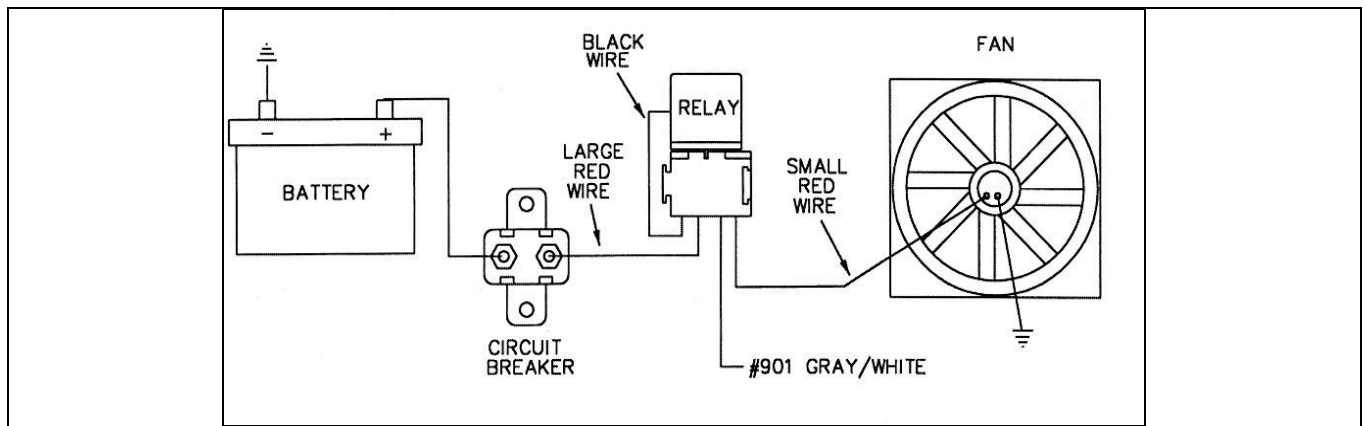

Figure 8-2 Typical Fan Relay Installation (**Painless Part #30101**)
- 8.1.4** Connect HEADLIGHT SECTION A wire #901 (gry/wht) to the Electric Fan Relay. This wire is an activation wire for the relay, **NOT A POWER FEED**. The other end of wire #901 is in the ACCESSORY SECTION SWITCHES and should be connected to the electric fan switch in the dash. Connect 906 (gry/wht) from ACCESSORY SECTION B+ to the other side of the fan switch. **Figure 8-2** shows a typical fan relay installation. **Note:** *The wire going to the fan in Figure 10-4B will be coming from the fan relay output terminal. Wire #901 (gry/wht) from the ACCESSORY SECTION SWITCHES is an activation wire for the fan relay.*